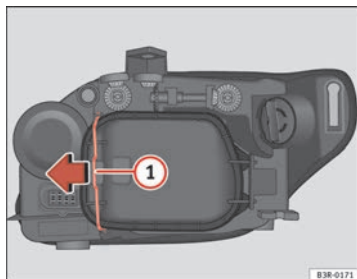

Fig. 210 Dipped head-lights
Although it is not necessary, previously remove the rigid cover ⇒ page 269, fig. 210 for easier turn signal bulb changes. ■
- Move the brace ⇒ fig. 210 ① in the direction of the arrow and remove the rigid cover, separating the brace side and then removing the two tabs from the other end of the cover.